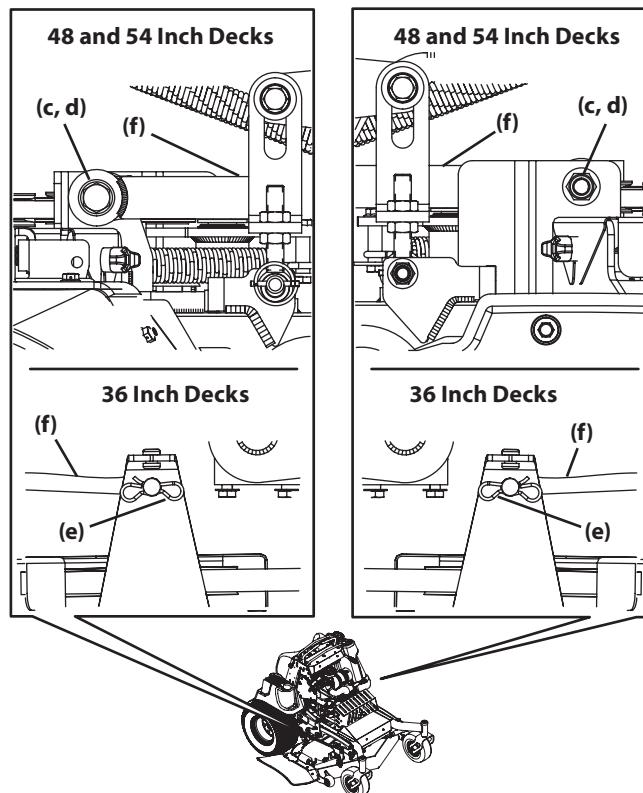

Figure 34
6. Remove the hex screws (g) flange lock nuts (h) securing the front deck control rods (i) to the deck. See Figure 34.